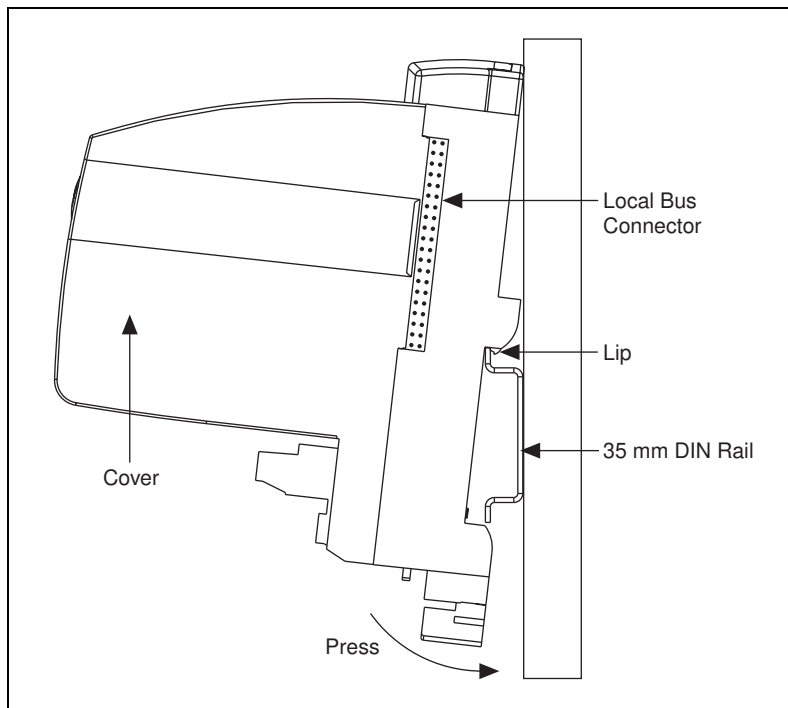

Figure 2-2. Mounting the FP-1600 onto a DIN Rail
| Figure 2-2. | Mounting the FP-1600 onto a DIN Rail | 2-2 |
- Hook the lip on the rear of the FP-1600 onto the top of a 35 mm DIN rail and press the FP-1600 down onto the DIN rail, as shown in Figure 2-2.